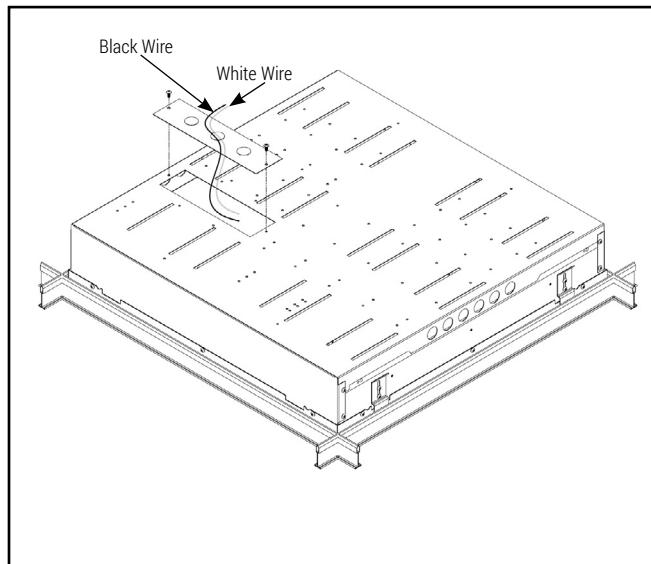

Figure 3.
2. Use 0.875 Knockout in access plate, Bring in the power supply switch. (Figure 3)
4. Connect the black and white wire in the flex to facility power using matching colors. Connect facility ground to fixture ground. (Figure 3)